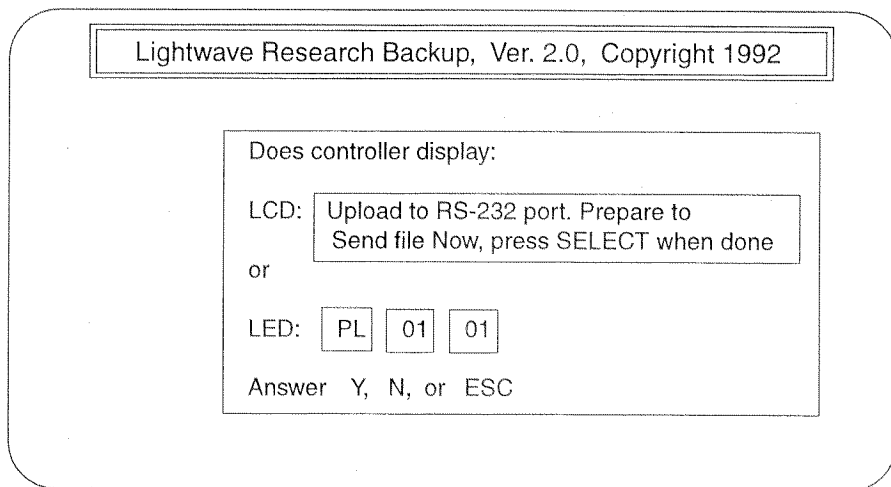

Figure 7.8. Upload Confirmation Display
4. A window appears verifying the operation and prompts you to press the “Y” key on the computer’s keyboard when ready to send the file as Figure 7.8 shows.